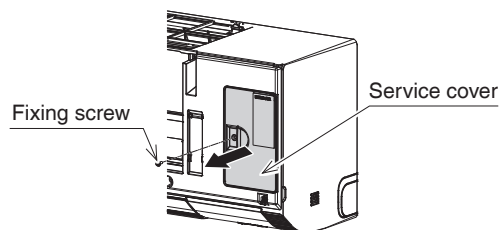

Fig. 8
- Remove fixing screw (1 pc.) and the service cover. (Refer to Fig. 8)